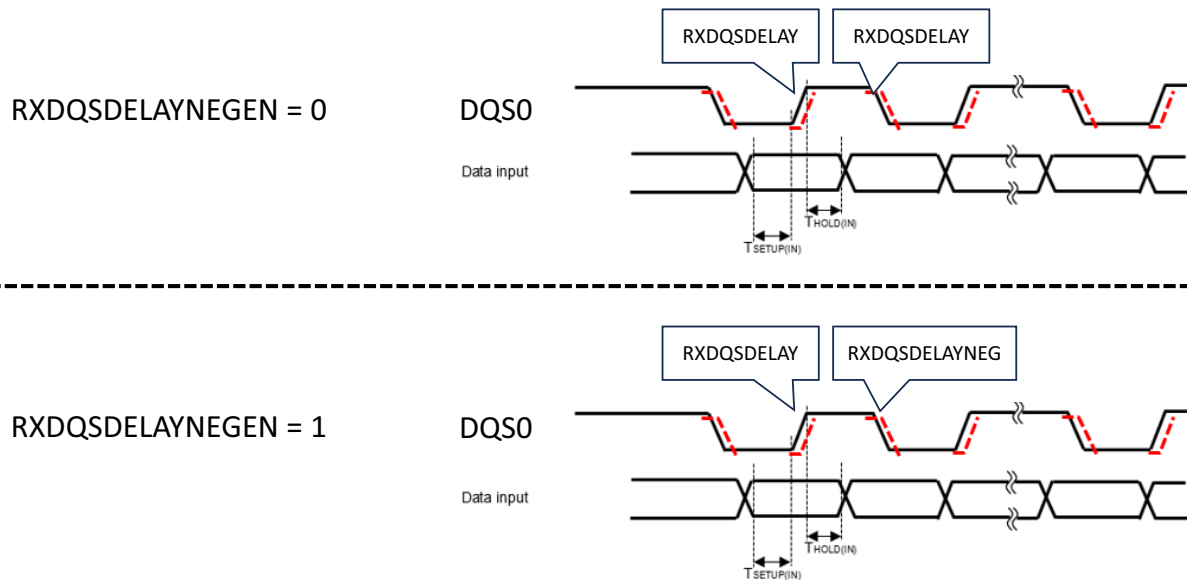

Figure 23. Octal/Hex DDR Mode with DQS - Read Delay Lines - Lower Data Byte DQS
Figure 23 shows DQS0 delay parameters in Octal/Hex DDR Mode with DQS, with respect to the input (RX) data byte (lower data byte for Hex) when $RXDQSDELAYNEGEN = 0$ and when $RXDQSDELAYNEGEN = 1$. See the fields in the $DEVnDDR$ register which set these parameters.